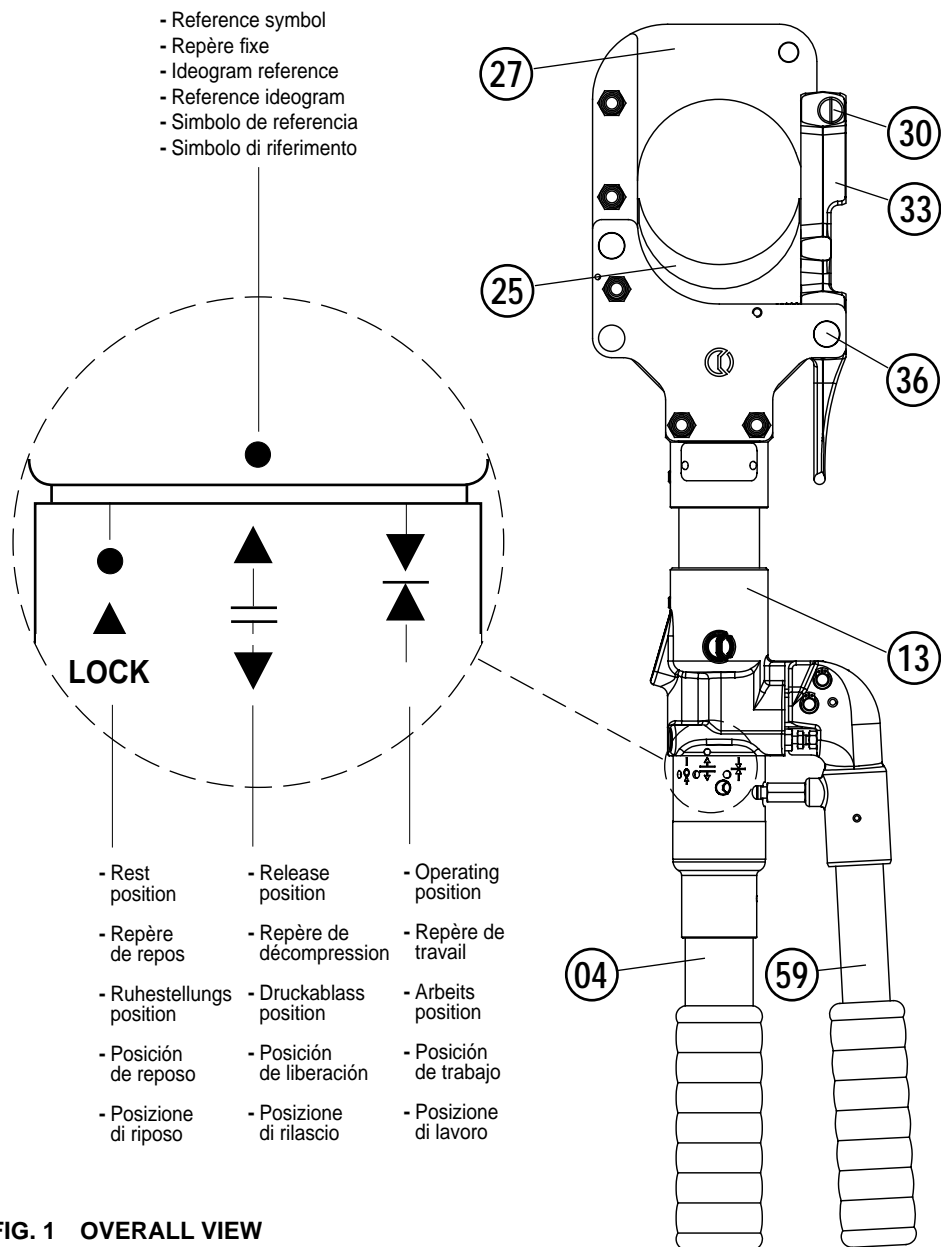

FIG. 1 OVERALL VIEW
- **Operating positions.** The three operating positions are identified on the main handle, (04), which rotates relative to the reference symbol  (see Fig. 1).
3. INSTRUCTIONS FOR USE (Ref. to Fig. 1 and 2)